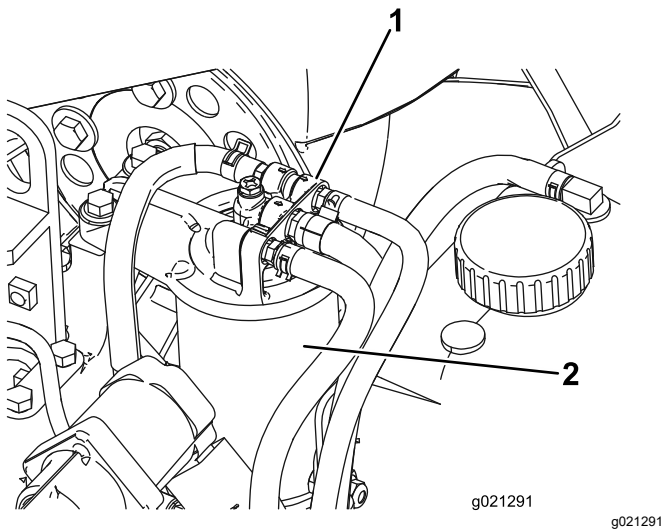

Figure 82
1. Clean the area around the fuel-filter head (Figure 82).
2. Remove the filter and clean the filter-head mounting surface (Figure 82).